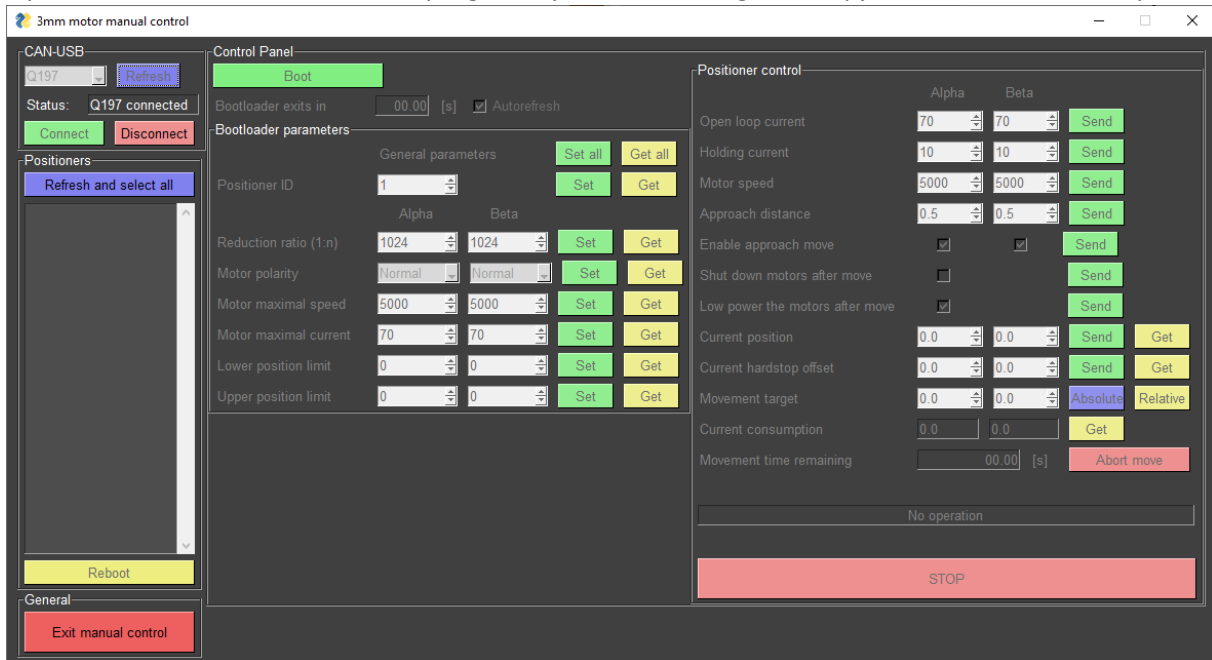

Figure 4: Manual control window
1. Exit button. This will close the manual control window and terminate all connections. It has the same effect as clicking on the closing cross on the top right of the window shown in Figure 4